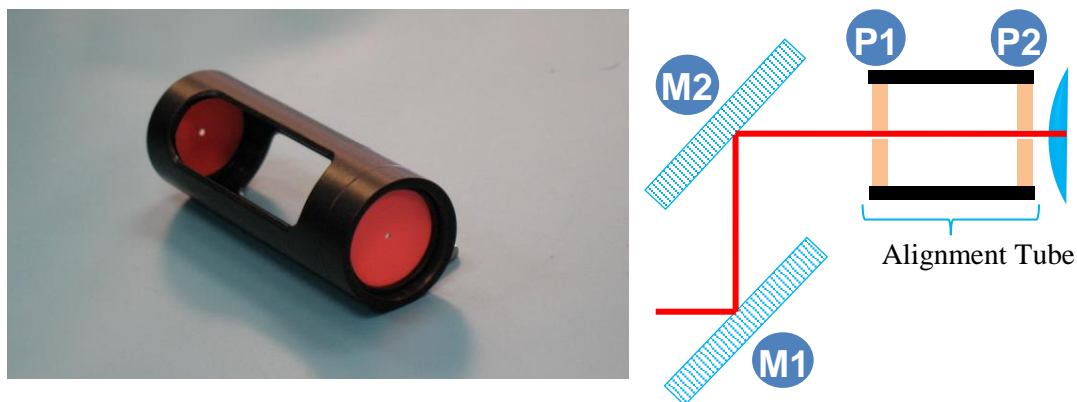

Figure 2-3: Alignment tube
- i. Make sure the beam reaches the first disk of the alignment tube. Use M1 to target the center of P1 (see **Figure 2-3**)